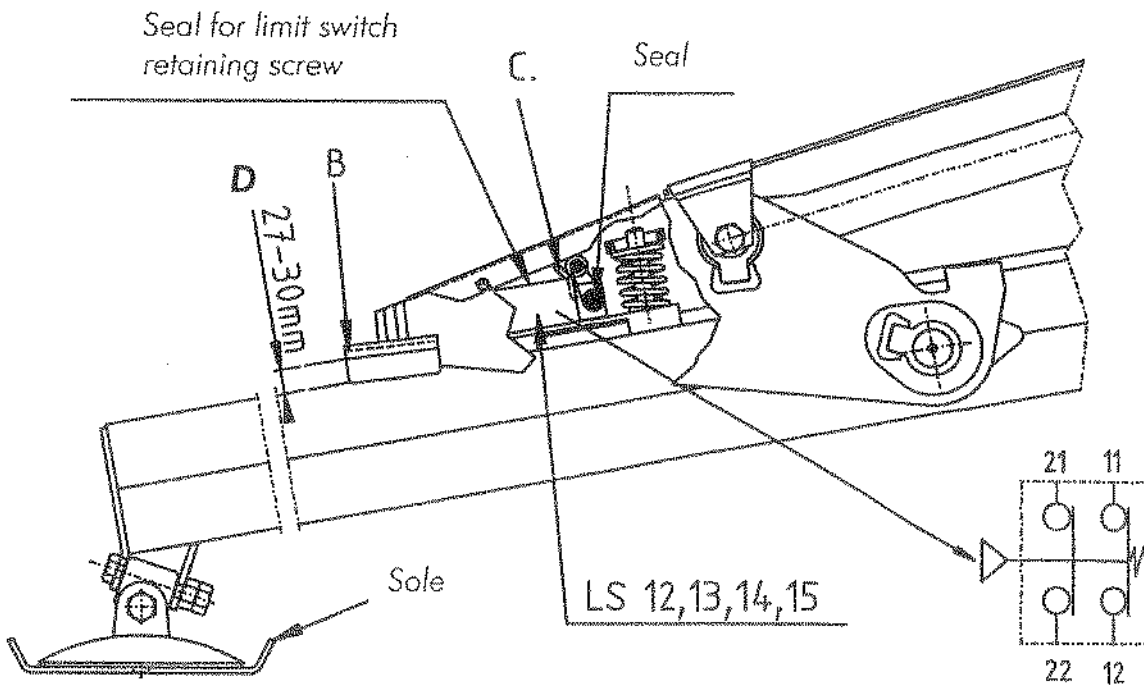

Figure 21.3-1
9. Raise the outrigger from the sole, in which case plate B touches the outrigger, refer to figure 21.3-1. Turn platform ignition lock to position ON (the engine does not have to be running). Lower the outrigger to position D, measure 25 mm, in which case the alarm should sound when the platform foot pedal is pressed.
21.3 Outrigger ground sensor limit switches LS12, 13, 14, 15, figure 21.3-1